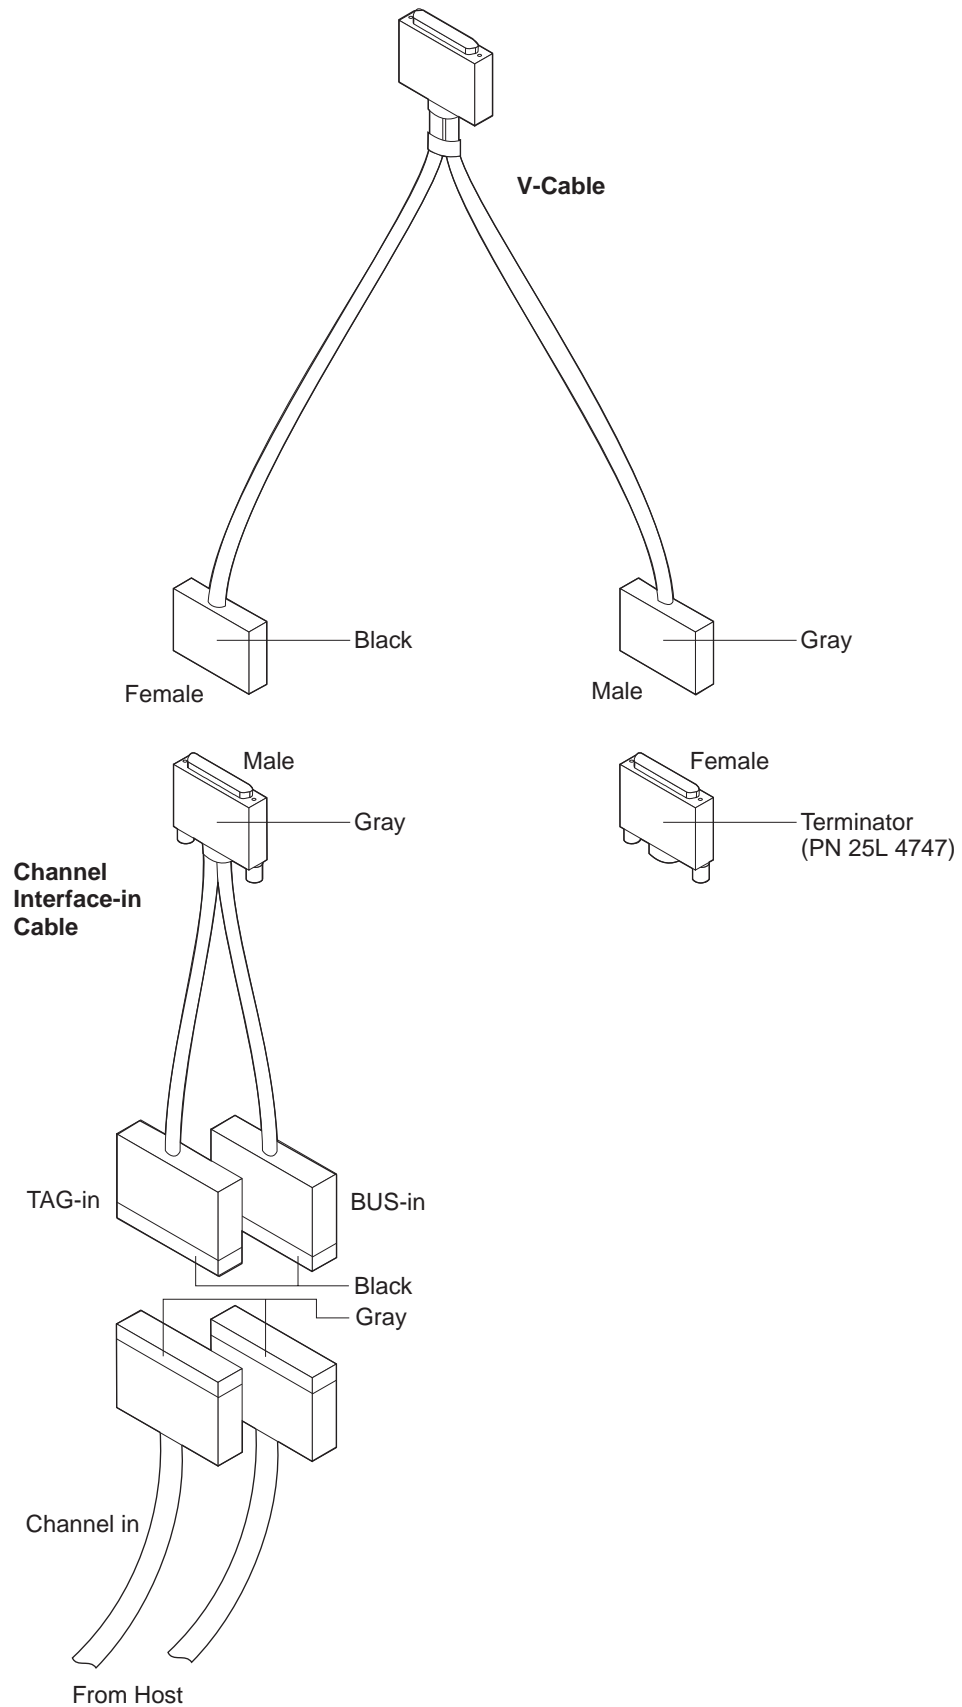
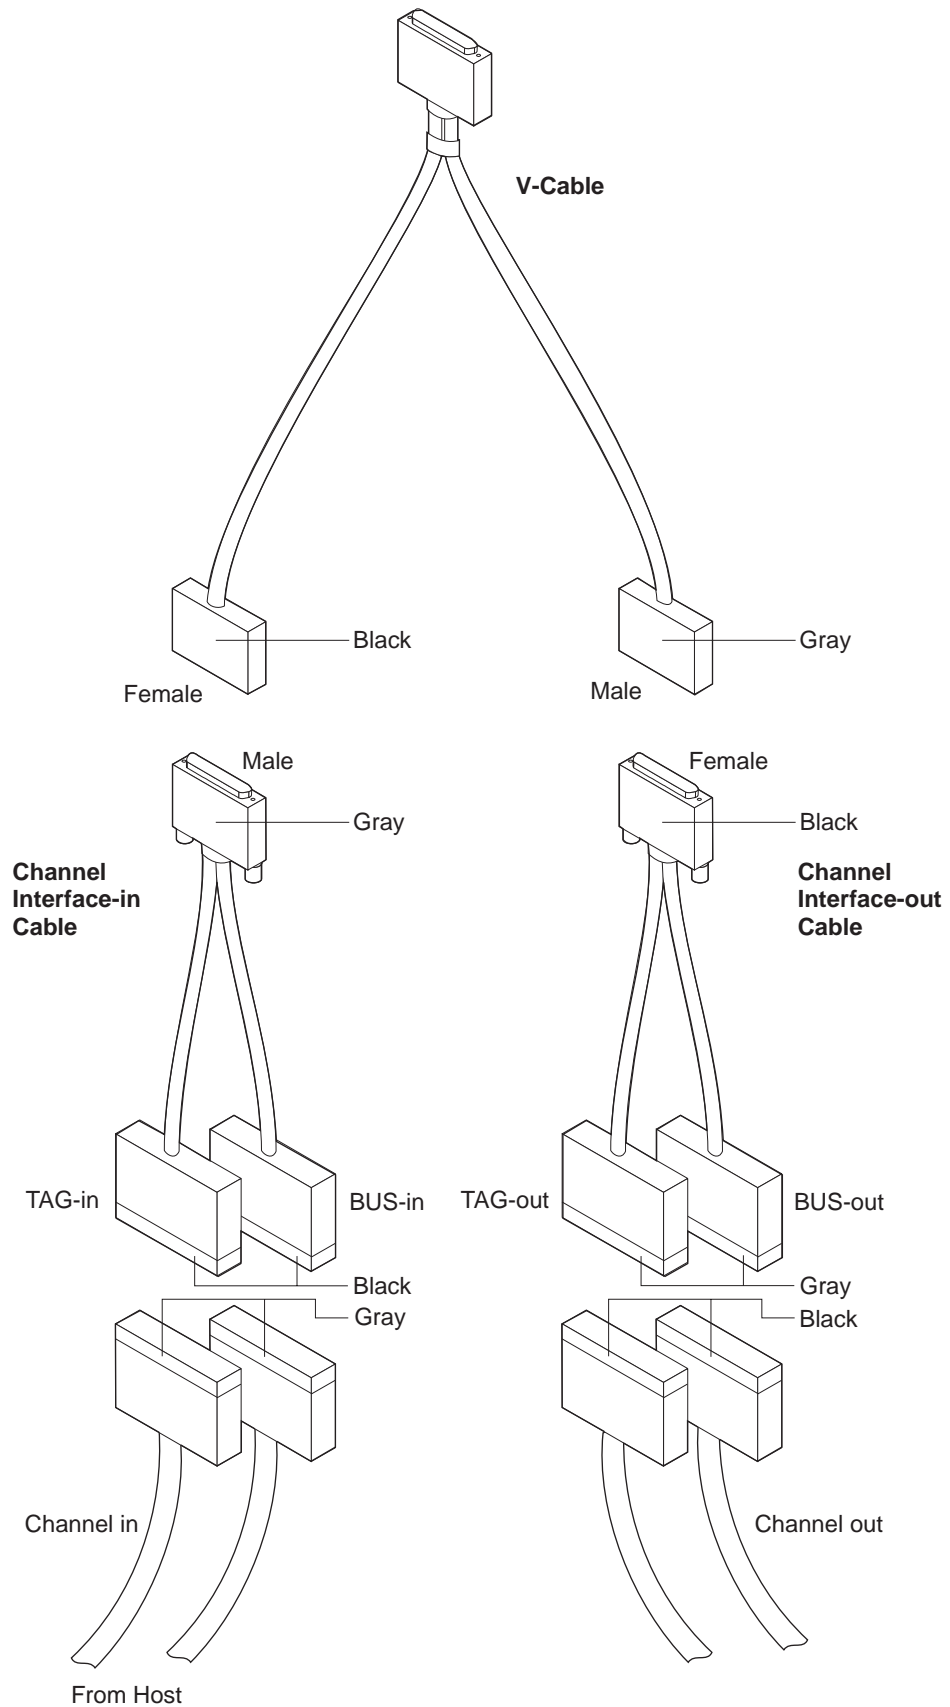
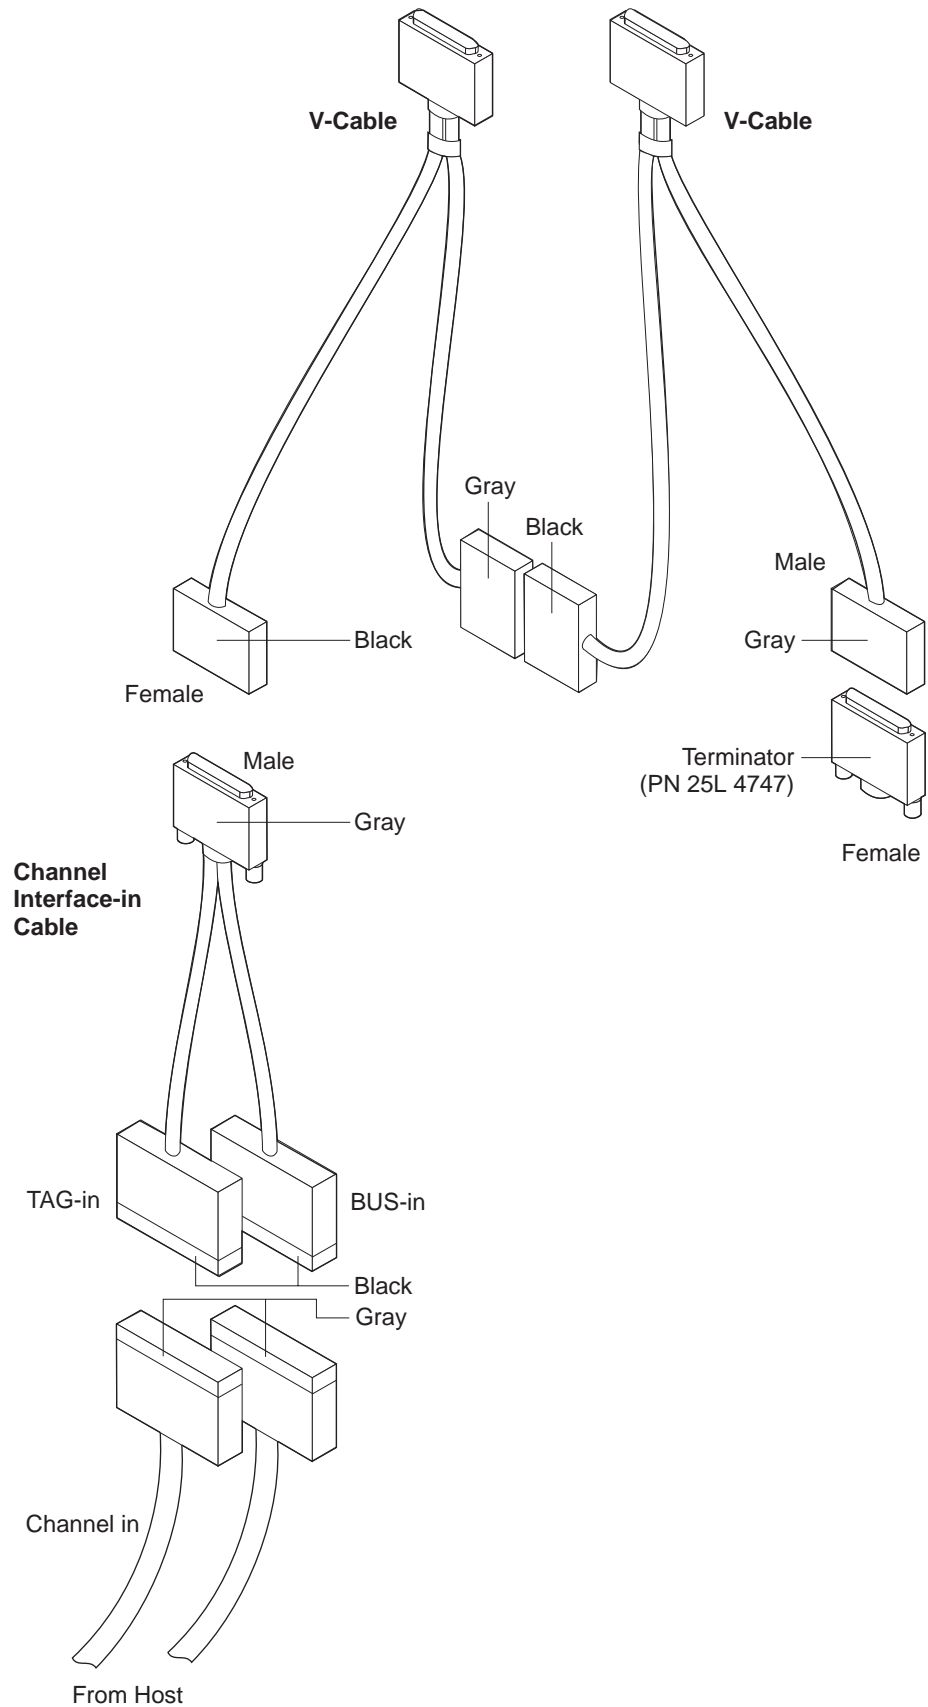

Figure 3-12. Cabling to IBM multiaccess enclosure at the End of Channel
Figure 3-13. Cabling to IBM multiaccess enclosure in the Middle of the Channel
Figure 3-14. Interconnected V-cables
The adapter attaches to the channel with the Channel Interface Cable group (*V-cable and two unique optional-order Channel Interface Cables*). Figure 3-13 on page 3-35 shows how the cables attach to the channel.
The standard multiaccess enclosure base Parallel Channel Adapter connection to a channel is a 1.8 m (6 ft) V-cable and two unique Channel Interface Cables (see Figure 3-12 on page 3-34 and Figure 3-13 on page 3-35). However, multiple adapters can be interconnected in a serial fashion by connecting cables as shown in the figures that follow.
6. Use Figure 3-12 on page 3-34, Figure 3-13 on page 3-35, and Figure 3-14 on page 3-36 as reference to continue the next Steps. Connect the Parallel Channel Adapter cables beginning at the host channel cable.